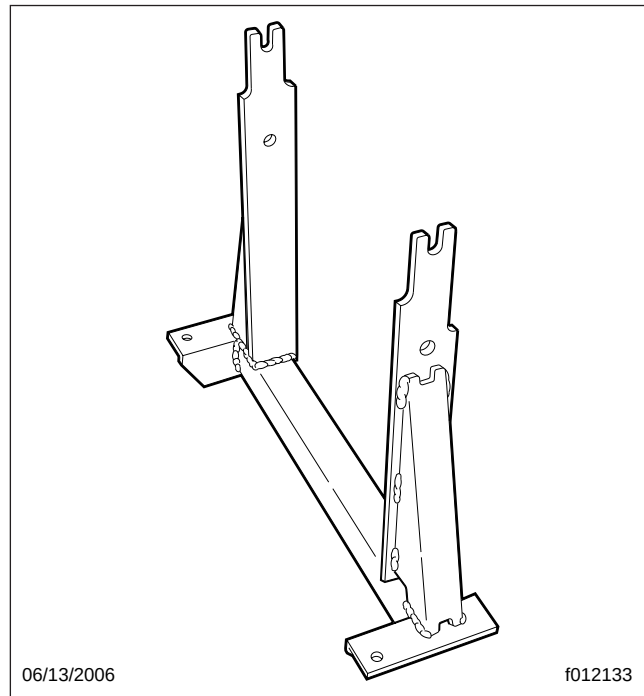

Fig. 1, Engine Shipping Stand, Detroit Diesel Series 60 Engine
23. From underneath the vehicle, install a suitable lifting bracket or stand, such as an engine shipping stand (for Detroit Diesel Series 60 engines) on the rear of the engine. See **Fig. 1**.